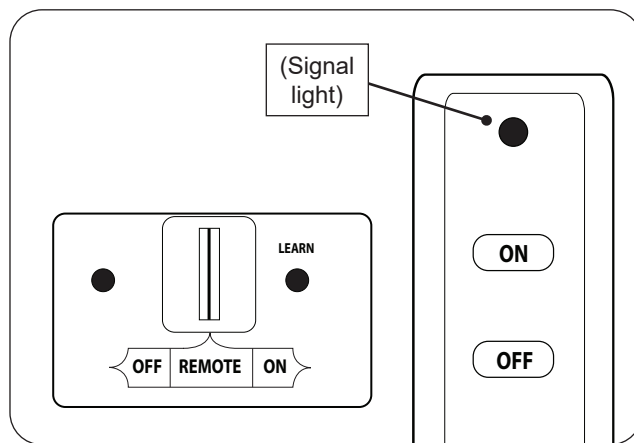

Fig. 26-1 Remote lighting
2. Locate the ON/OFF switch at the front of the switch box and/or the 3-position switch on the remote receiver, and press/slide to the **OFF** position(s) (see Fig. 26-1).
3. Slide the 3-position switch on the remote receiver to **REMOTE** (see Fig. 26-1).
4. Locate the remote transmitter and press the **ON** button (see Fig. 26-1). The ignition sequence will begin.